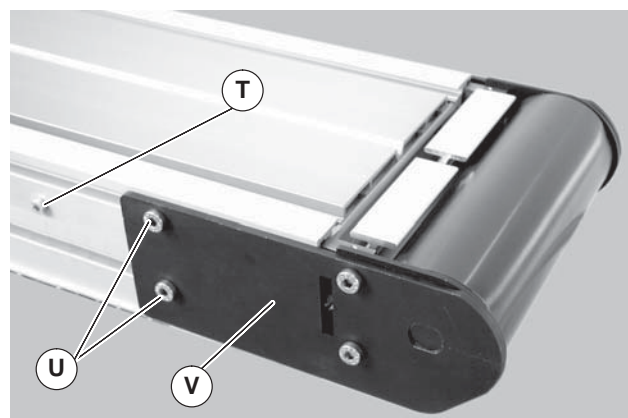

Figure 5
2. On tension end of the conveyor, identified by the pinion locking screw (Figure 5, item T), push in head plate assembly (V): Loosen the pinion locking screw (T), adjust the pinion torque screw (Figure 6, item W). On both sides of conveyor, loosen the two tail clamp bolts (Figure 5, item U), and push head plate assembly (V) inward.